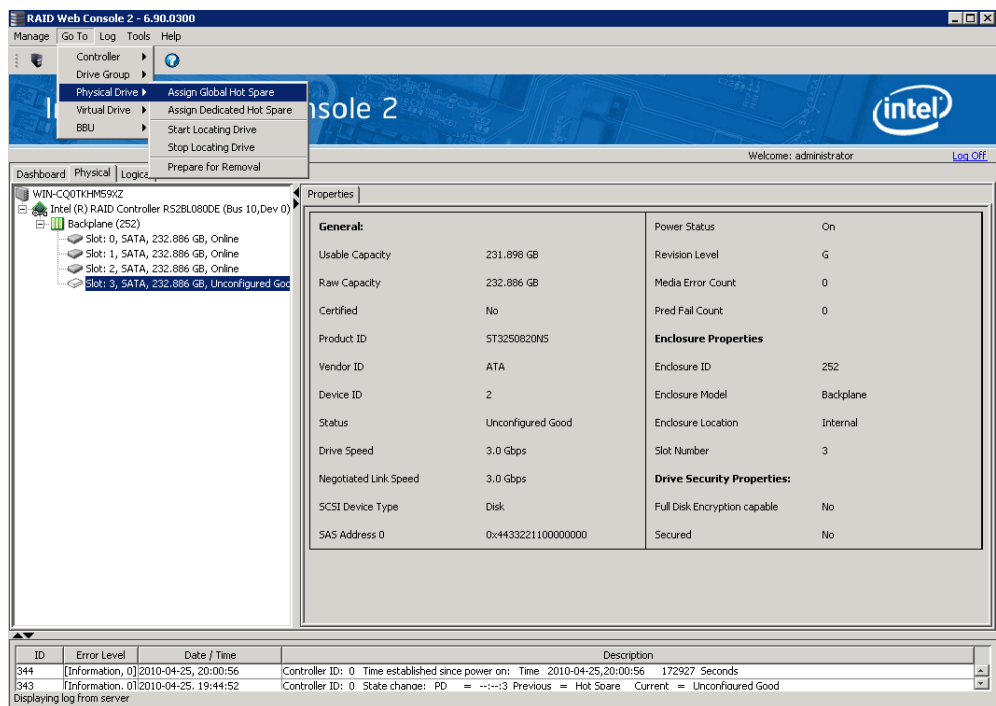

Figure 64. Assign Global Hotspare
2. In the Menu, click the **Go To -> Physical Drive** tab and select **Assign Global Hotspare**, as shown in Figure 64.